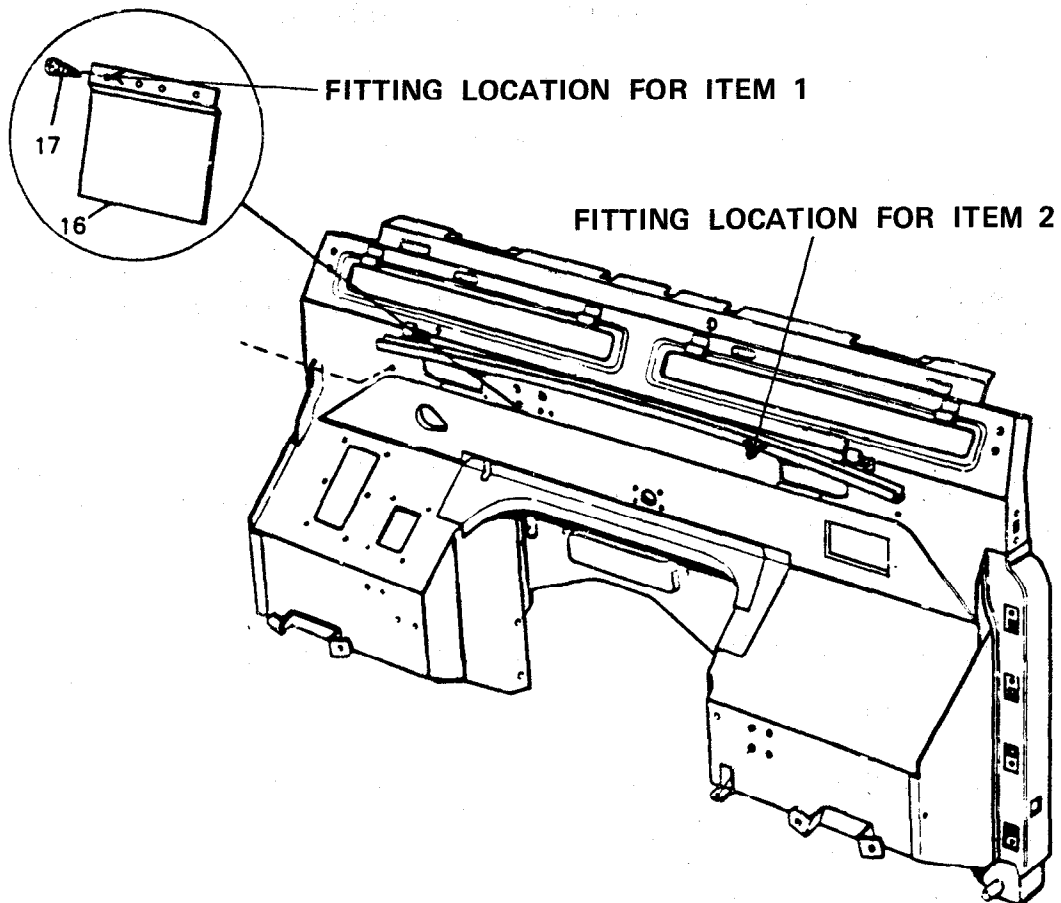

FIG 1 - LOCATION OF PROTECTION PLATE
- a. Unscrew Item 17 as shown in Fig 1 and retain it.
- e. Locate the hole on the scuttle adjacent to the LH grommet plate as shown in Fig 1.
- h. Pull down on the tail of the Clamp Loop (item 1) and tighten the retaining screw.